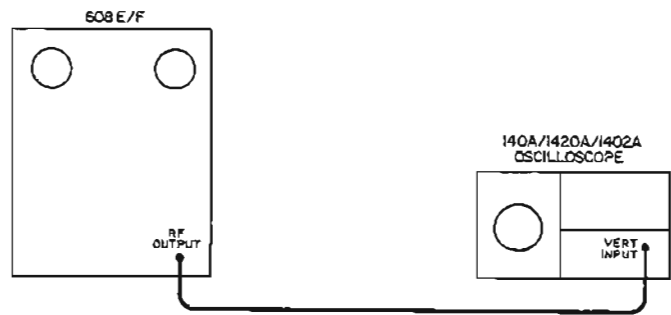

Figure 5-14. Modulation Meter Calibration Test Setup
a. Connect 608E/F and oscilloscope as shown in Figure 5-14.
c. Adjust R204 (Figure 5-14) to point where dc voltmeter shows no further voltage increase with adjustment of R204.